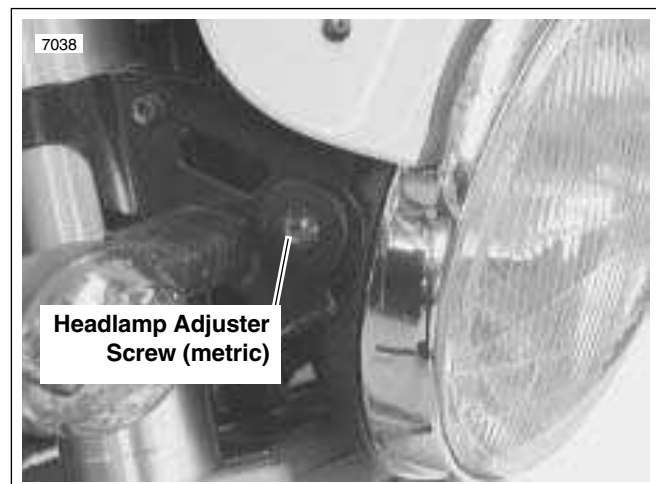

Figure 1-53. Headlamp Height Adjustment
1. See Figure 1-53. Loosen both adjuster screws (metric).